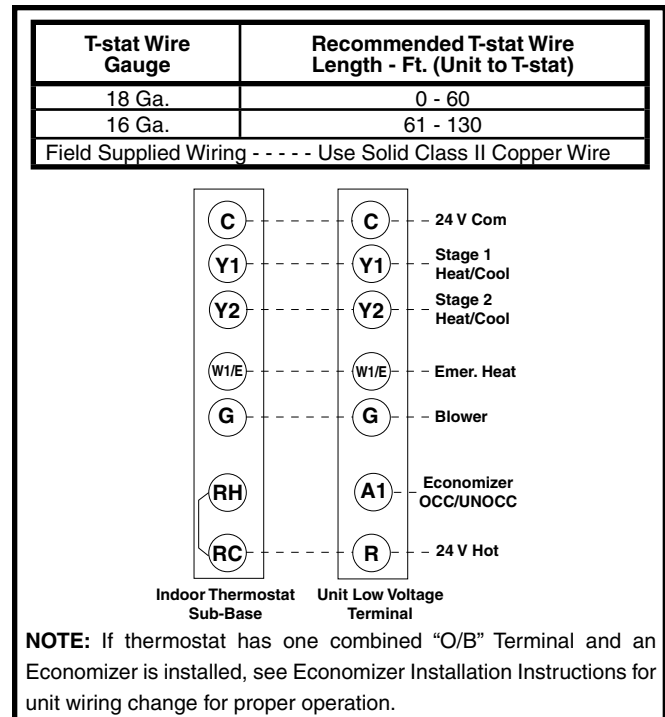

Figure 8. Typical Connections - 2 Stage Cool / 1 Stage Heat T-Stat
2. Cut out the cable opening and route the thermostat cable from the unit's low voltage compartment to the thermostat location. The thermostat cable is supplied by the installer. See Figure 8 for recommended wire size.
3. Connect the cable leads to the subbase or thermostat terminals and to the unit's low voltage terminal block as shown in Figure 8. System wiring diagrams are also provided on the inside of the control access panel and in Figures 13 - 16 (pages 21 - 22).